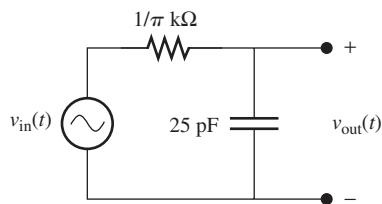

FIGURE P7.1 Circuit for Problem 7.1.
- 7.1 (B)* Find the transfer function for the filter of Figure P7.1: